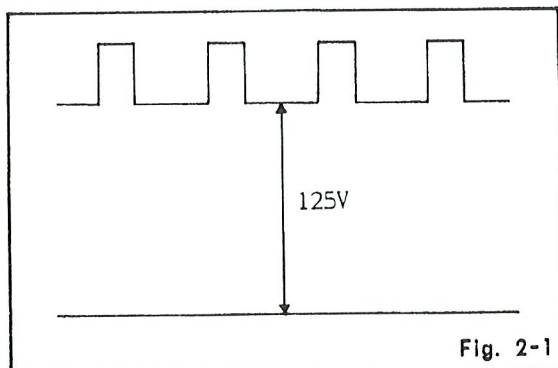

Fig. 2-1
5. Adjust VR402 to obtain 125V as shown in Fig. 2-1.